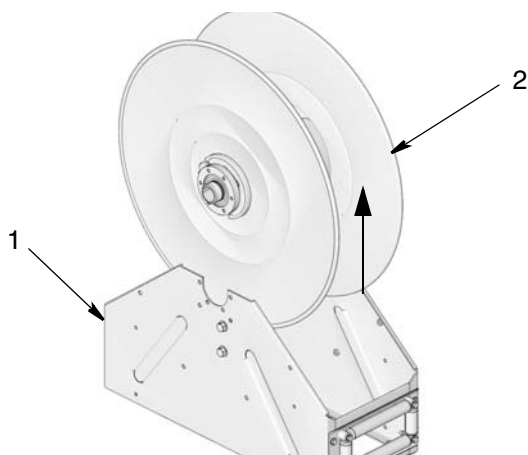

FIG. 17
- 18. Lift up spool (2) to remove it from base (1) (FIG. 17).